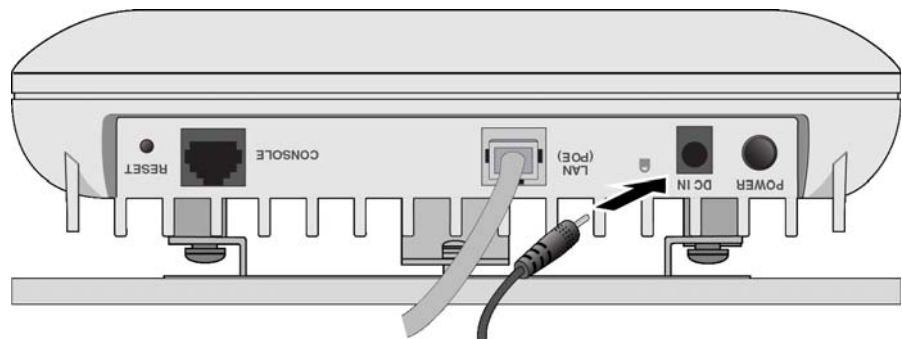

Figure 28. Connecting an AC/DC Power Adapter to the DC IN Connector
2. Plug the DC cable from the power adapter into the DC IN connector on the wireless access point. Refer to Figure 28.